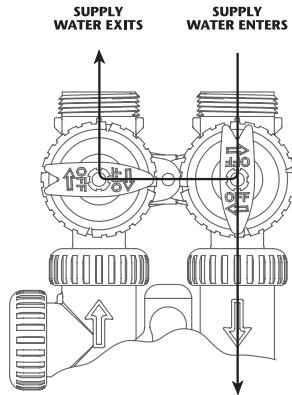

FIGURE 3
3. DIAGNOSTIC POSITION: The inlet handle points toward the control valve and the outlet handle points to the center of bypass valve. Untreated supply water is allowed to flow to the system and to the building, while not allowing water to exit from the system to the building (Fig. 3). This allows the service technician to test the unit and perform other functions without disrupting the water going to the building.